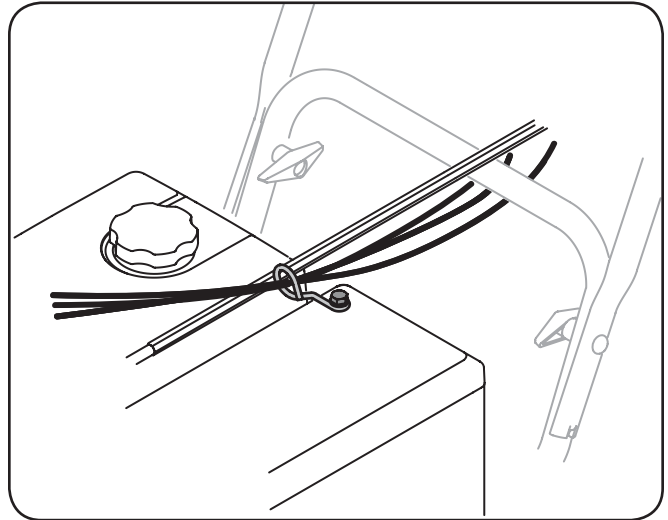

Fig. 3-10
9. It is important that all cables be routed through the cable guide and remain positioned on the left side of the hex rod. See Fig. 3-10.